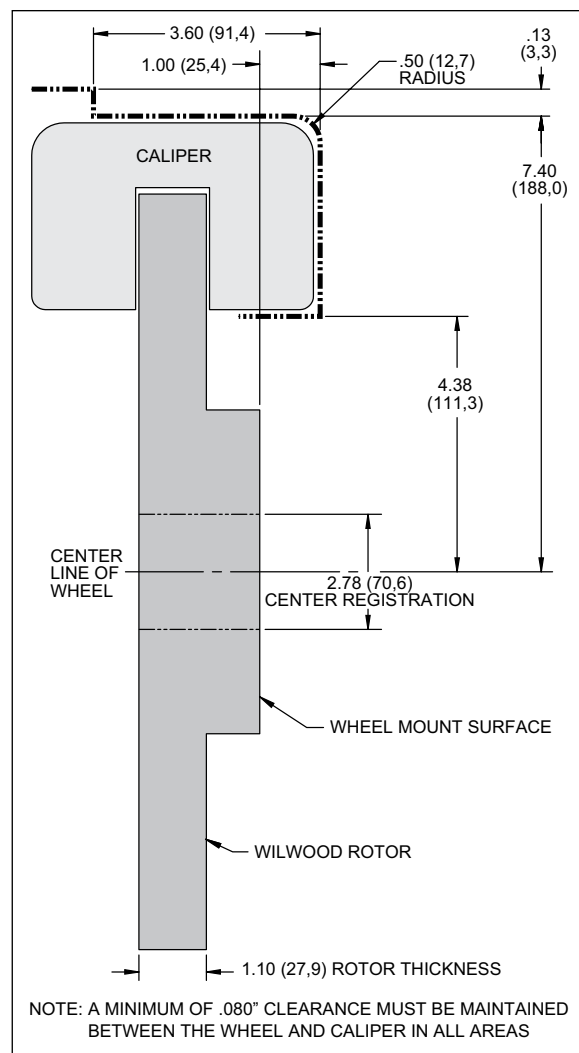

Figure 2. Wheel Clearance Diagram
- Review the wheel clearance diagram (Figure 2, page 3) to verify that there is adequate clearance with the wheels you will be using with the installation.
•Verify your wheel clearance using Figure 2.